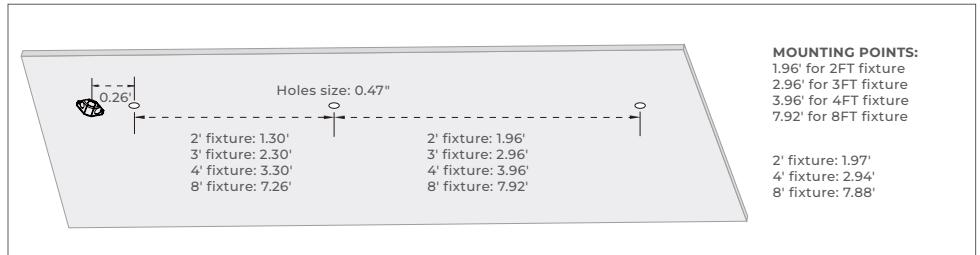

FIGURE 6-4
- 2) Prep mounting surface as shown. (Figure 6-4)